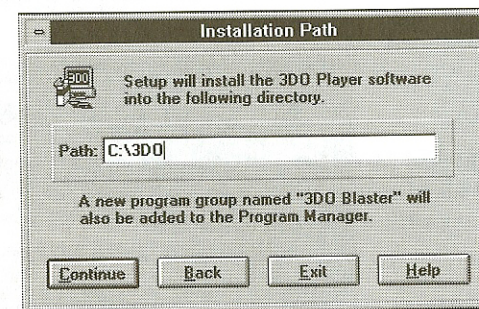

Figure 3-4: The Installation Path dialog box.
7. Choose Install Player. The Installation Path dialog box in Figure 3-4 appears.